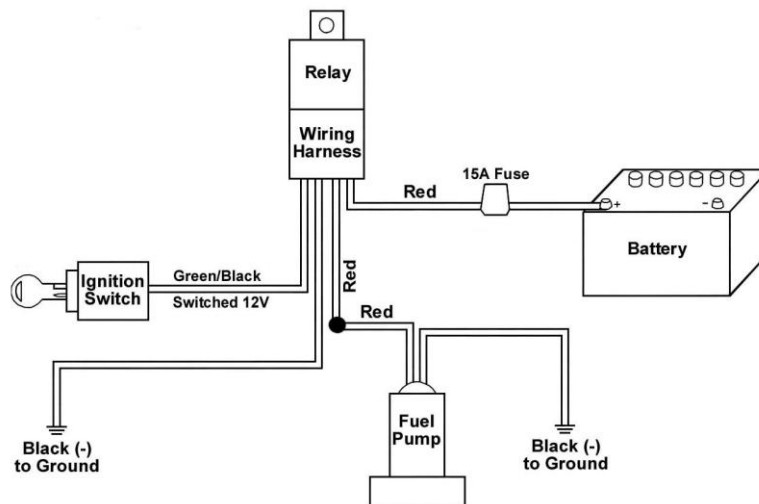

Figure 4
**NOTE:** A fuel pump can be wired as shown in Figure 3, but the preferred method is wiring it through a relay, as shown in Figure 4.